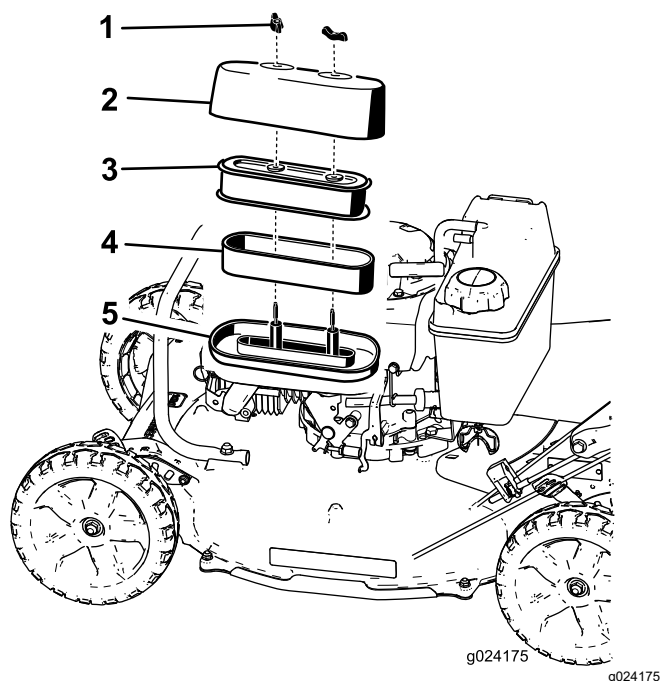

Figure 22
3. Remove the 2 nuts that secure the cover (Figure 22).
5. Remove the foam and paper elements from the base of the air cleaner (Figure 22).
6. Remove the foam element from the paper element (Figure 22).